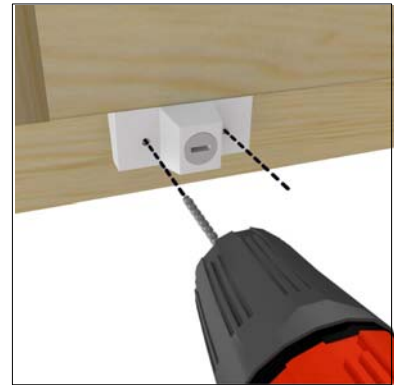

Figure 3
- Return the sash to the closed and locked position. Drill two 7/64" pilot holes into the frame through the pilot hole guide located on the face of the security lock. See figure 3.